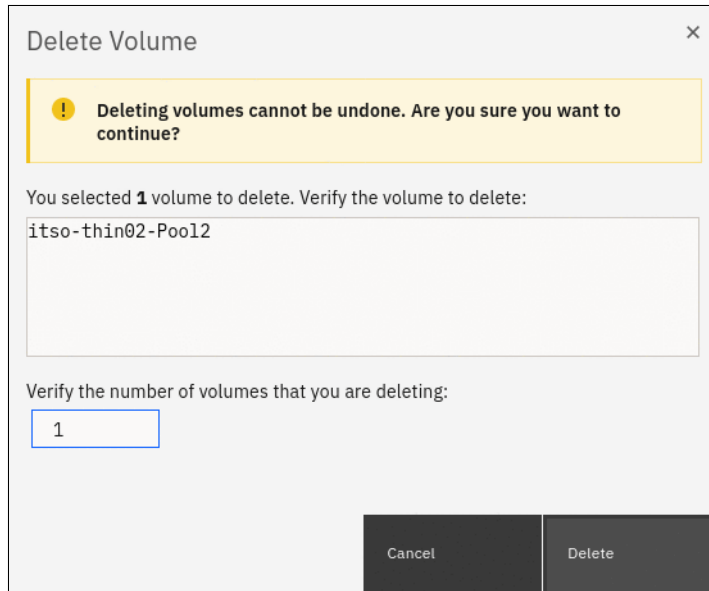

Figure 6-57 Confirming the volume deletion
2. Review the list of volumes that is selected for deletion and provide the number of volumes that you intend to delete, as shown in Figure 6-57. Click **Delete** to remove the volume from the system configuration.